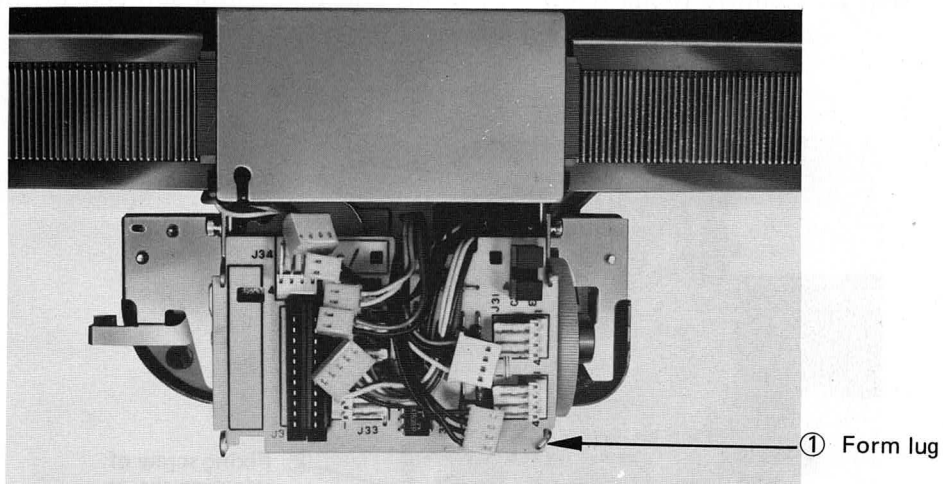

Fig. 5.11
Step 2. Using pliers, straighten the form lug ① of the carriage frame, then remove the carriage circuit board. (Fig. 5.11)